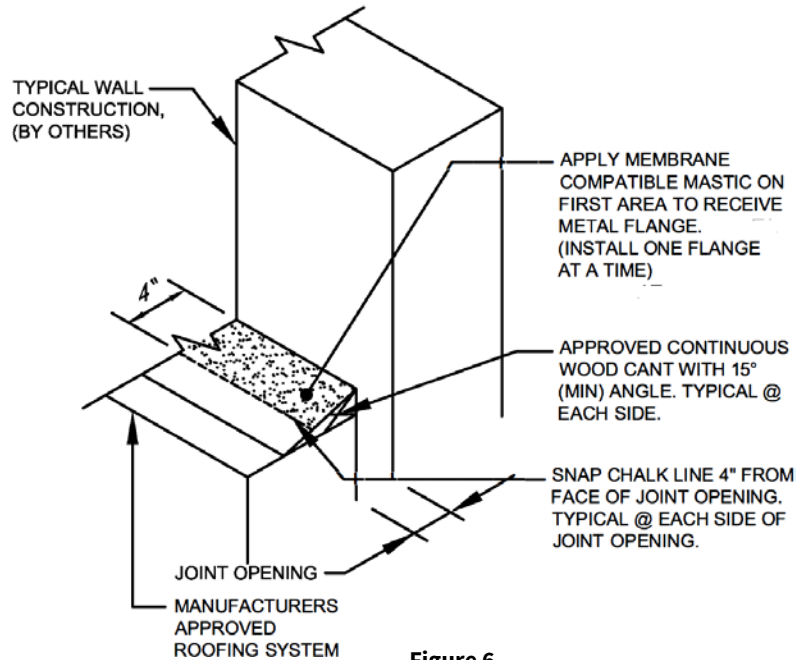

Figure 6
6. On the roof side, snap a chalk line 4" from face of joint openings. Apply membrane compatible mastic on 4" wide area over wood cant to receive metal flange. **See Figure 6**